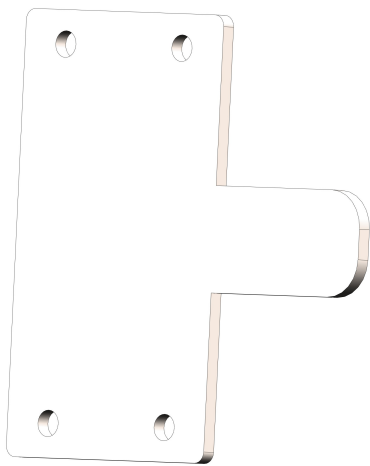

Figure 14: Rear (Drive Block) Locking Plate
1. The rear locking plate in (Figure 14) is placed under the tarp and secured to the rear (*closest to tailgate*) thread inserts in the drive block using the m6 bolts provided.